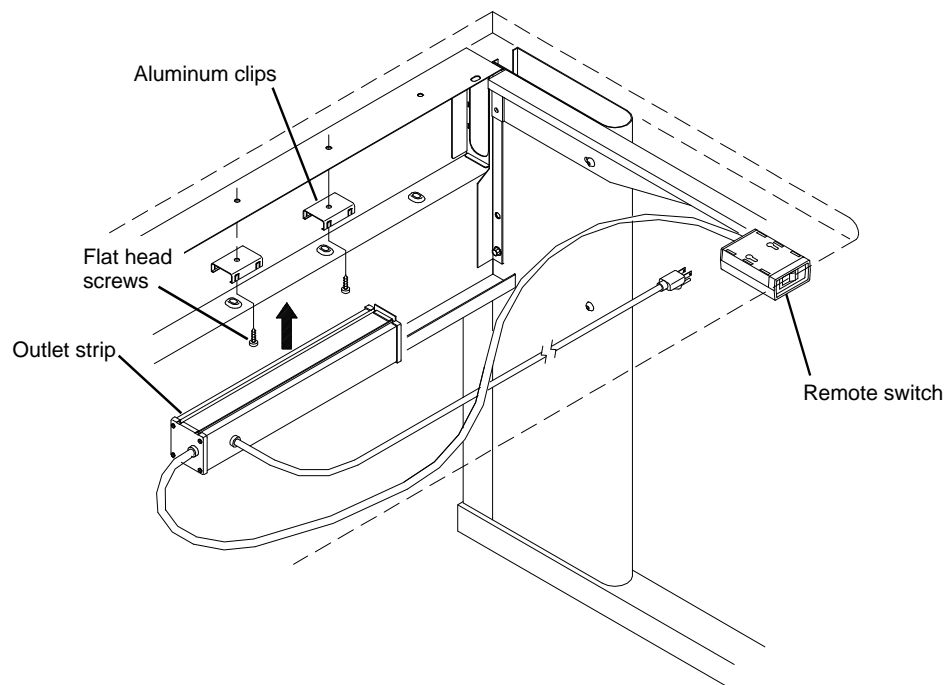

Figure 1
3. Determine the location of the **Outlet Strip** and then attach the Aluminum Clips with the Flat head screws as shown in **Figure 1**. The screws will go through the holes in the Modesty Panel and into the pre-drilled holes in the Worksurface. Next, snap on the Outlet Strip.